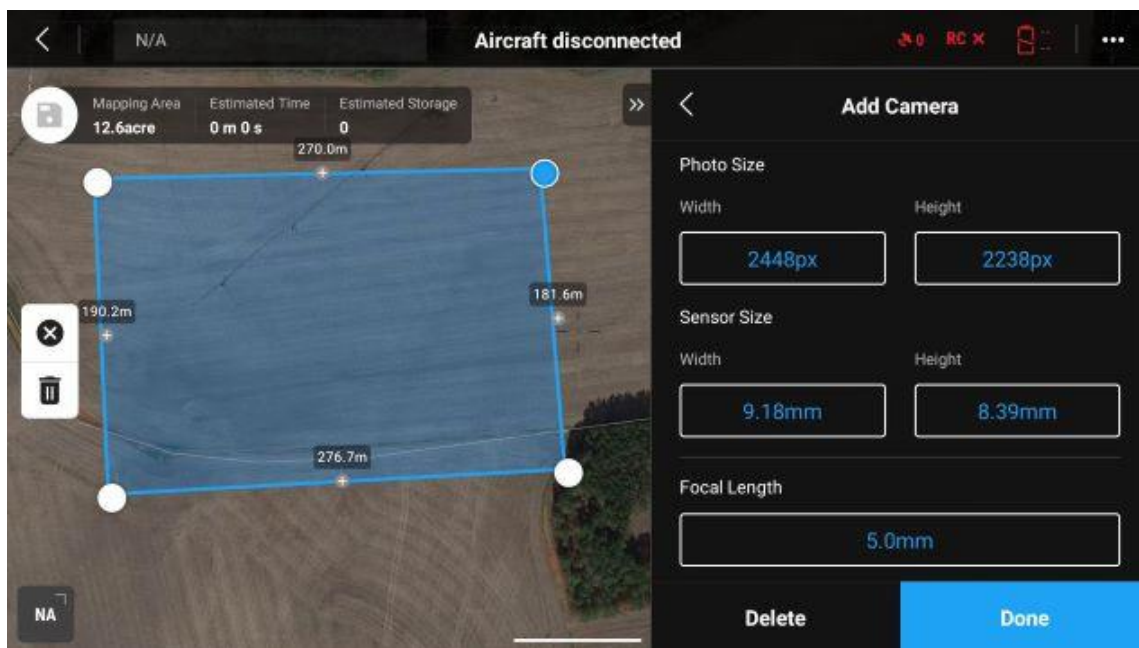

Figure 33: Adding camera values
5. Add the camera value shown (Figure 33) in as the camera parameters.